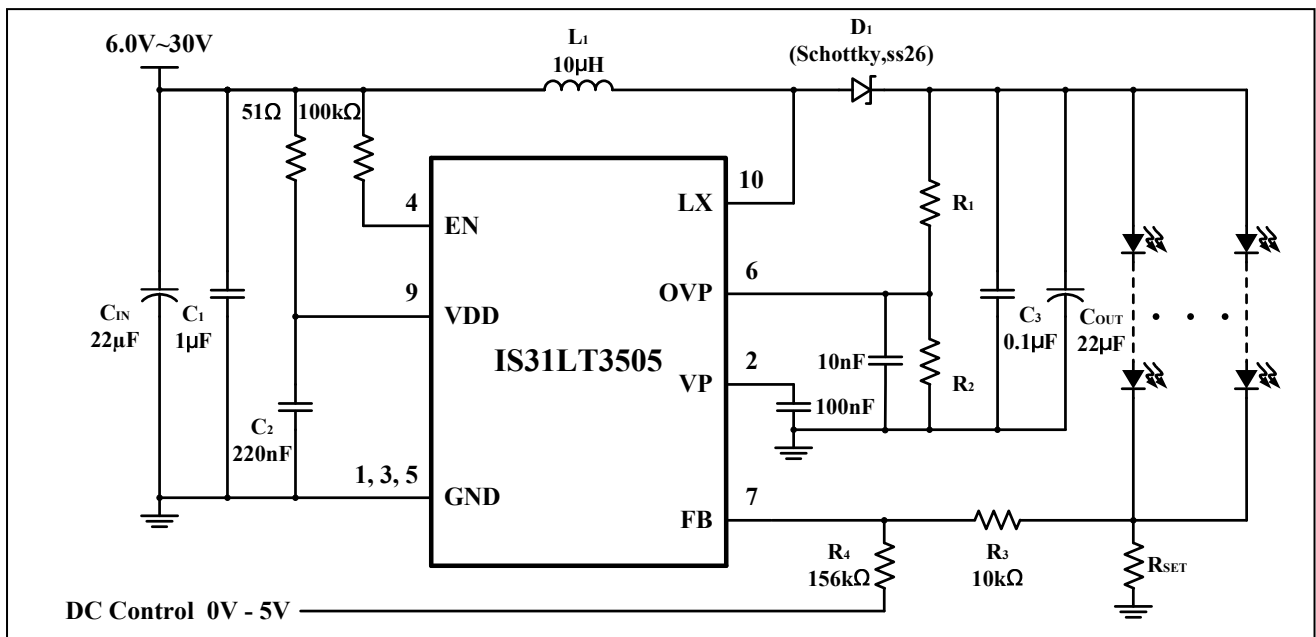

Figure 14 Application Circuit (Constant Current to Drive White LEDs With DC Dimming)
IS31LT3505 can modulate the brightness of LEDs by controlling the DC voltage or the PWM duty cycle (Figure 14, 15).
Figure 14 shows that the intensity of the LEDs can be adjusted by the DC voltage. As the DC voltage increases, the current pass through R3 increasing and the voltage drop on R3 increase, i.e. the LED current decreases. The LED current can be calculated by the Formula (2). The internal feedback voltage V_{FB} is 0.3V (Typ.).
When the DC voltage is from 0V to 5V, the value of R3 should be 10kΩ. Refer to Figure 14.